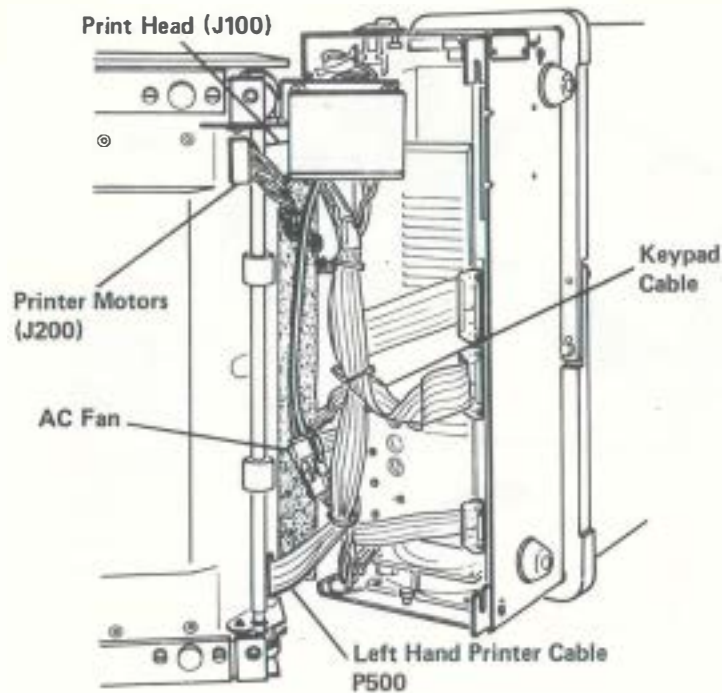

Figure 5-18. Printer/Plotter and Processor Unit (Bottom View)
8. Holding the printer/plotter by the front, tilt the front up and lift until the hooks at the top release from the processor unit. Move the printer/plotter out two or three inches from the processor unit. See Figure 5-18.
11. Remove the printer cable from the left rear of the printer/plotter. See Figure 5-18.
12. Remove the print head cable and motors cable from the right rear of the printer/plotter. See Figure 5-18.
2. Reconnect the printer cable to the left rear of the printer/plotter. See Figure 5-18.
3. Reconnect the fan AC connector. See Figure 5-18.
5. Route the print head cable and motors cable through the right rear of the processor unit. See Figure 5-18.